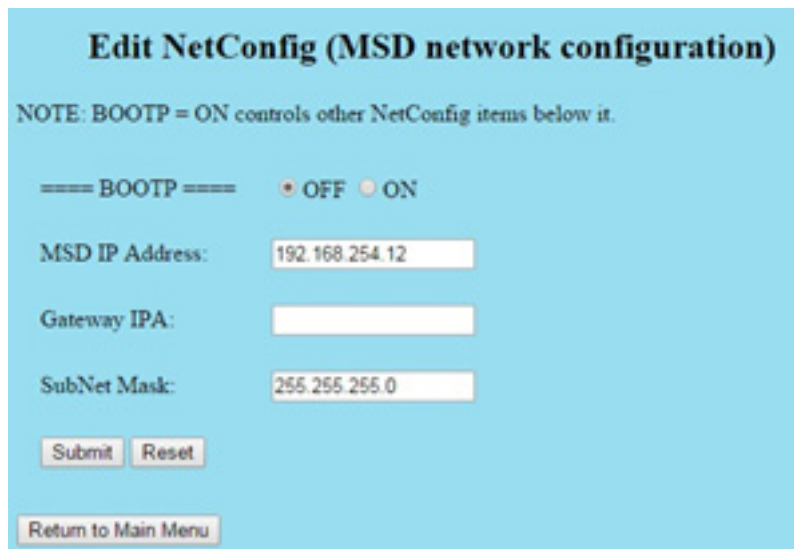

Figure 22 WUI Edit NetConfig
- 5 Click **Set Real-Time Clock or Edit NetConfig**, and go to **Edit NetConfig (MSD network configuration)**. (See Figure 22.)